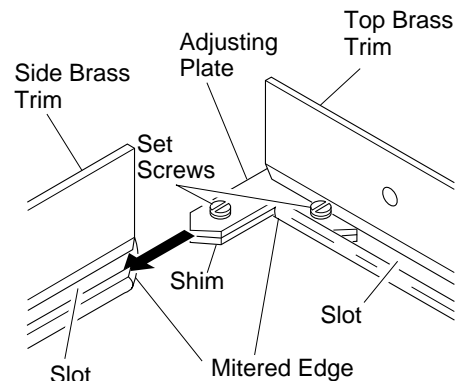

Figure 6 - Assembling Brass Trim
5. Slide other end of adjusting plate/shim in slot on mitered edge of side brass trim (see Figure 6).
4. Slide one end of adjusting plate/shim in slot on mitered edge of top brass trim (see Figure 6).